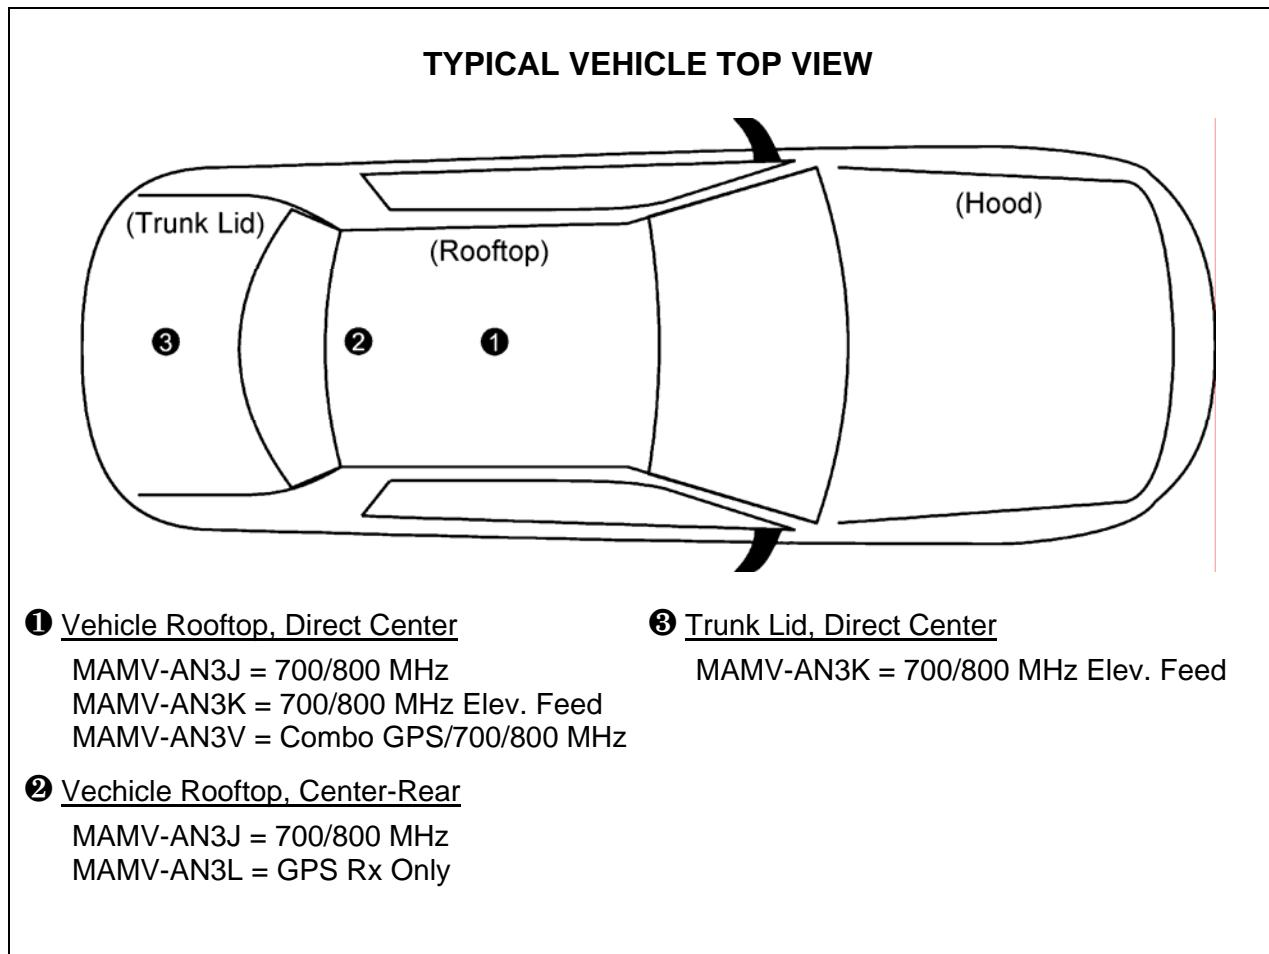

Figure 7-1: Recommended Antenna Mounting Locations (With Antenna Part Numbers)
Antennas can be mounted in one of three possible locations on the vehicle as described in the following subsections. Figure 7-1 shows the recommended locations and antenna part numbers for each location. Also, see Table 4-2 for additional information. Always follow manufacturer's instructions when mounting an antenna.
The center of the vehicle's roof is the best location for the rooftop antenna (❶ in Figure 7-1). For optimal performance, the mounting area under the antenna must be a flat with a minimum radius of six (6) inches of metallized ground plane. It must be located directly in the center of the roof for RF safety. Other obstructions such as a light bar or another antenna may prevent the antenna from being mounted in the direct center of the roof. In this case, the antenna should be mounted a minimum of one foot away from and behind the obstruction but in the middle of the roof with respect to the left and right sides of the vehicle (❷ in Figure 7-1).
Certain vehicles do not allow for the antenna to be placed in the center or center-rear of the roof. In this case, the next best location for the antenna is in the direct center of the trunk lid (❸ in Figure 7-1). In this case, an elevated-feed-point antenna is recommended. Although this type of antenna does not require a metallized ground plane, it must be located directly in the center of the trunk lid for RF safety.